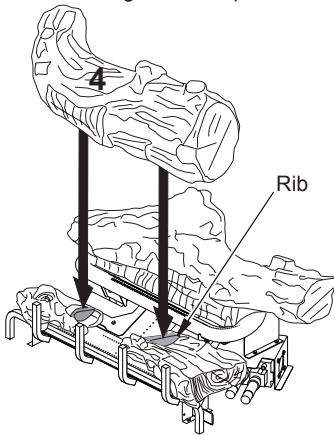

Figure 34 - Installing Log #4
4. Place front log (#4) on top of left and right bottom logs as shown in Figure 34. Notches in bottom of log #4 will fit over ribs in logs #2 and #3.